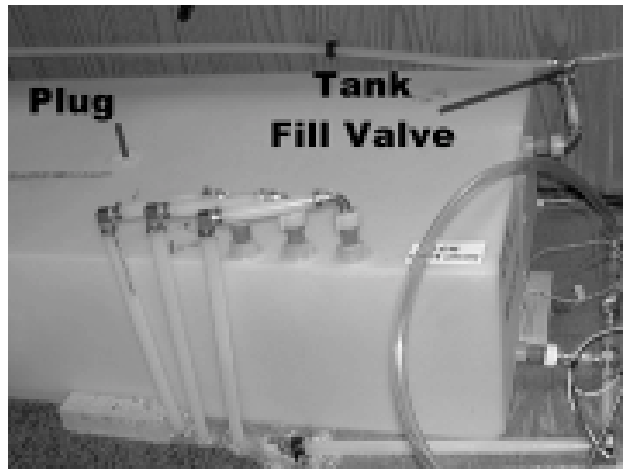

Fig. 4-5
2. In a large bucket, prepare a chlorine solution using $\frac{3}{4}$ cup of household bleach and three (3) gallons (11.35 liters) of water.
3. Unscrew plug from the top of the water tank and pour the solution into the tank. (Fig. 4-5)
4. Connect garden hose to the city water connection (Fig. 4-1). Open the water tank fill valve (Fig. 4-5) and add water until the tank is $\frac{1}{2}$ - $\frac{3}{4}$ full.